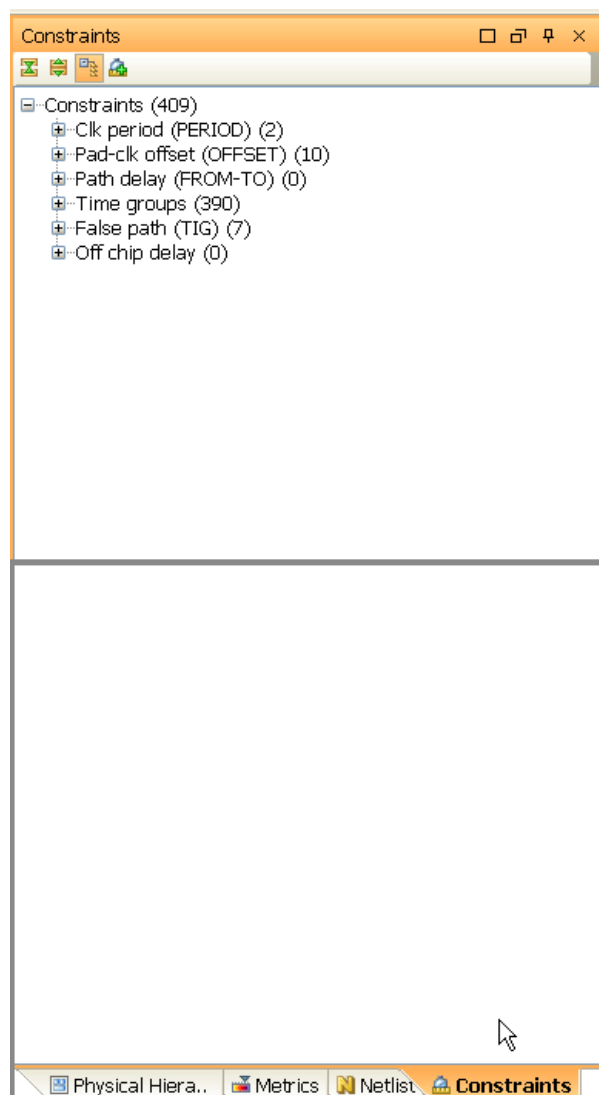

Figure 4-29: Dragging Constraints View to Share View with Other Views
1. Click the tab, for example the Constraints tab in Figure 4-29.